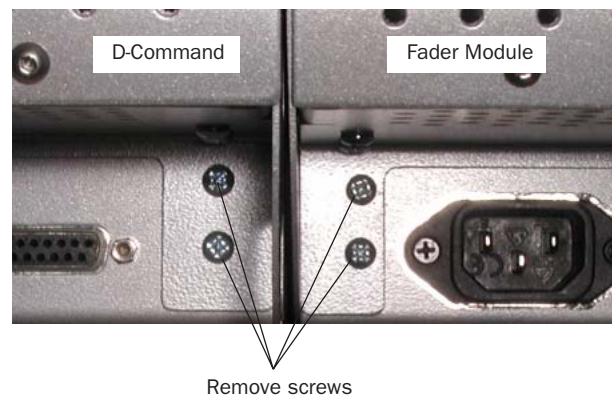

Figure 5. Rear view of D-Command and Fader Module
- 7 Remove the four Philips head screws indicated in Figure 5.